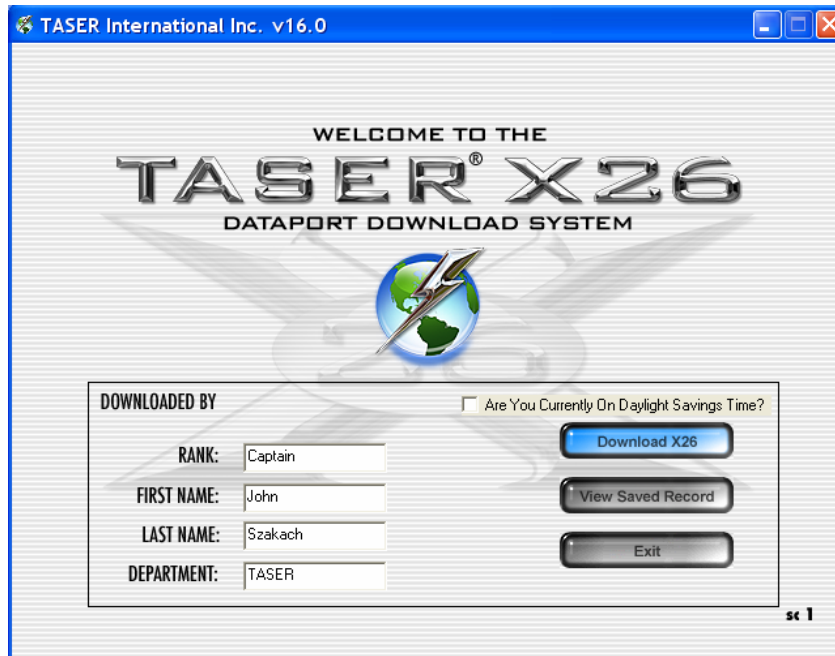

Figure 23
1. To view a previously saved record, select **View Saved Record** from the initial program screen Figure 23).